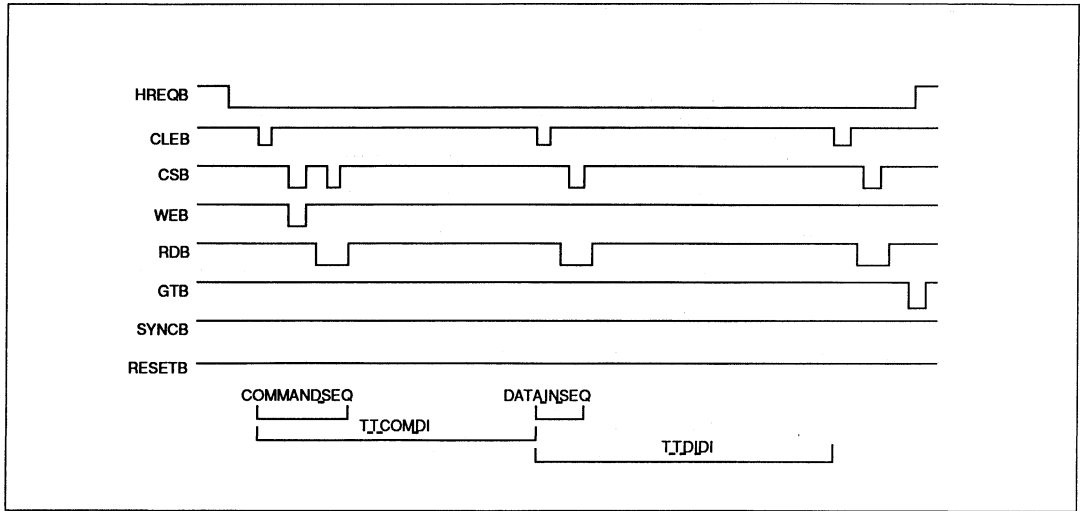

Figure 2.5: Transmit Commands
**TRANSMIT COMMAND** (Figure 2.5)